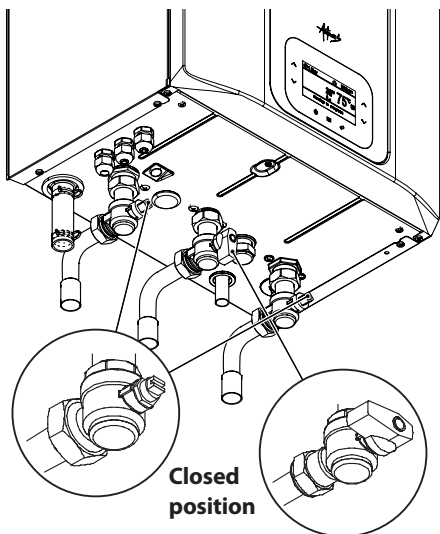

Fig. 2.33
- Close the boiler cocks Fig. 2.33.